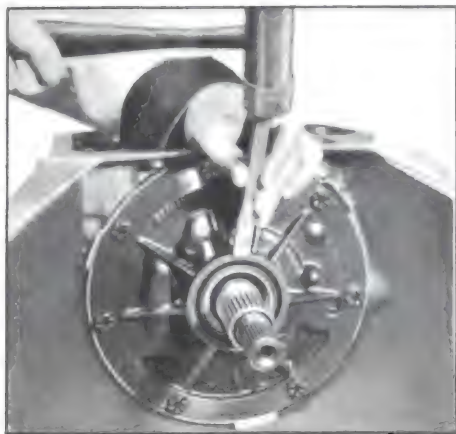

Figure 5-535
1. If necessary to replace, pry front seal from pump. See Figure 5-535.